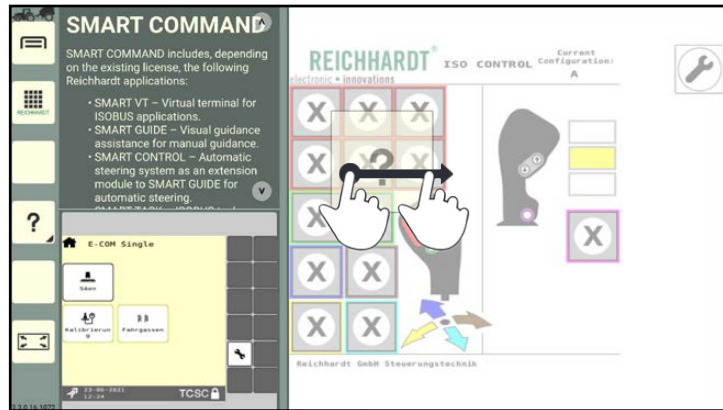

Fig. 78: Dragging the application into the required window
2. Drag the application into any window (see Fig. 78).